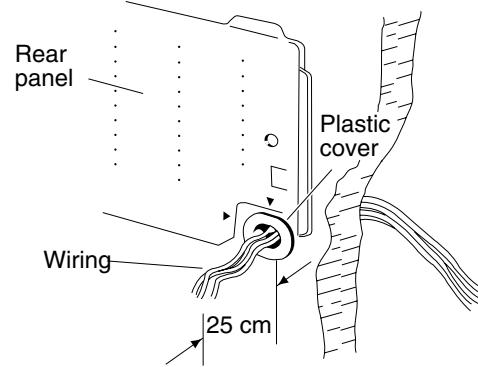

Fig. 3-32
- (3) Insert the inter-unit wiring into the through-the-wall PVC pipe. Lead the power wiring into the room allowing approx. 25 cm to extend from the wall face. (Fig. 3-32)